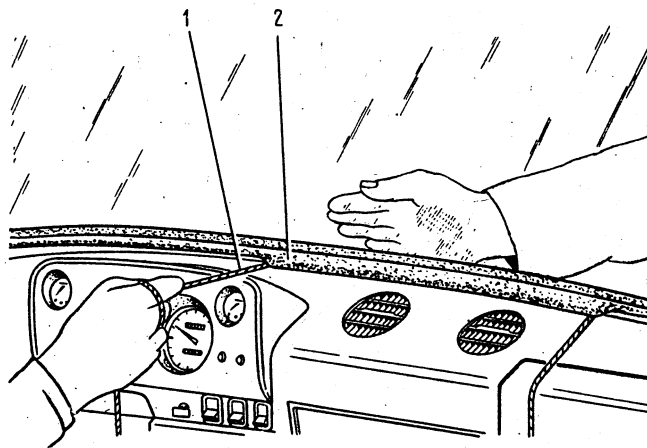

Fig. 8-24. Installing the Windshield:
- using a screwdriver, insert installation cord 1 (Fig. 8-24) into the recess by which weatherstrip 2 is slipped on the body flange;